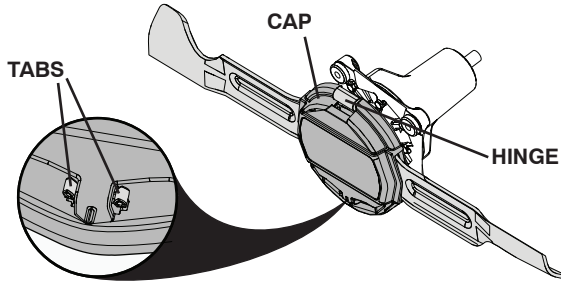

Fig. 19
BLADE REPLACEMENT (See Figs. 19 - 24)
- Squeeze tabs inward to release cap. Remove by lifting cap from hinge and set aside. (See Fig. 19.)